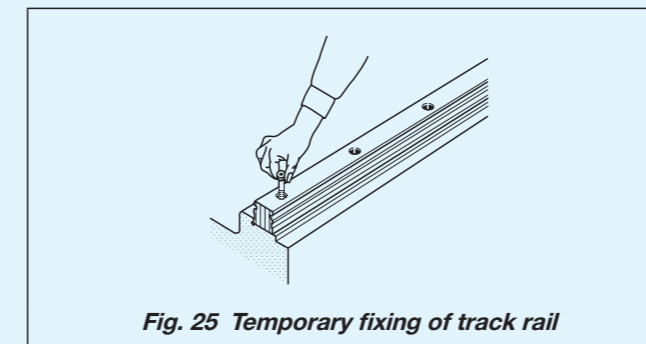

Fig. 25 Temporary fixing of track rail
- Align and temporarily fix them with reference mounting surface of each Linear Way track rail. (See Fig. 25) At this point, ensure that the fixing bolt does not interfere with the mounting hole.